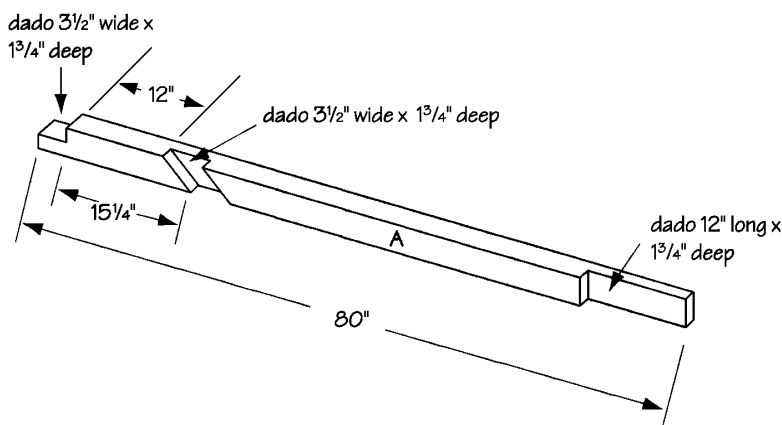
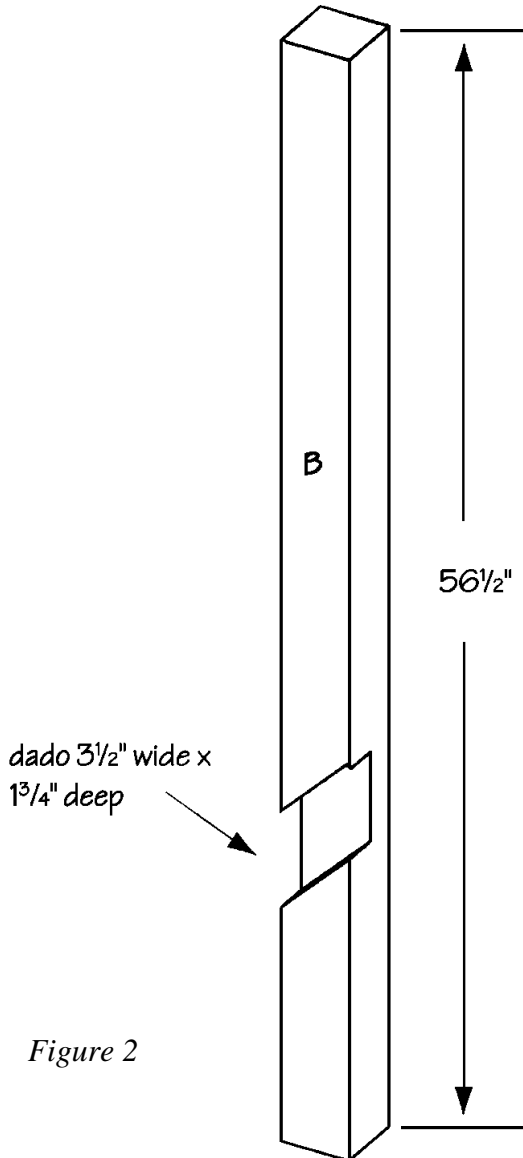
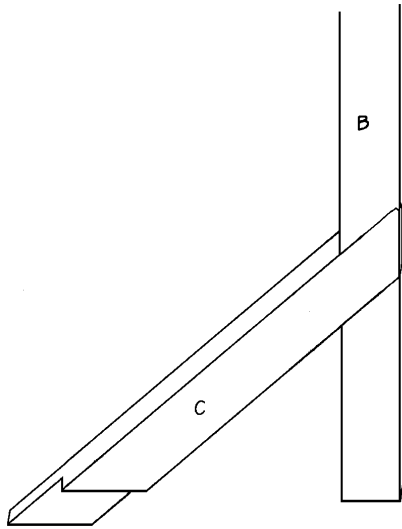

Figure 1
Figure 2
Figure 6
1. Cut one cross tie (A) from 4 x 4 pine, measuring 80: long.
2. Follow *Figure 1* to measure and then cut a lap dado across the width of one end of the crosstie (A), 3-1/2" across and 1-3/4" deep.
3. As shown in *Figure 1*, but a 45-degree diagonal dado in the cross tie (A), 12 inches from the lap dado, 3-1/2" wide and 1-3/4" deep. *Figure 1* shows an additional 12"-long dado cut on the remaining end. *This dado will be cut later.*
4. Cut one upright (B) from 4 x 4 pine, measuring 56-1/2" long.
5. Follow *Figure 2* to measure and then cut one 45-degree diagonal dado 3-1/2" wide and 1-3/4" deep, 12" from what will be the bottom of the upright support (B).
1. Place the cross tie (A) on a level surface, with the lap dado exposed on the top, as shown in *Figure 1*.
2. Place the footing (E) dado side down, over the lap dado in the cross tie (A). Screw them together by screwing through the footing dado into the crosstie dado. Use four 3"-long screws to secure the joint.
3. Fit the front brace (C) into the diagonal dado cut into the upright (B), as shown in *Figure 6*.
1. Screw a metal hanger into each of the uprights (A), about 5" from the top, on the same side as the front brace (C).
3. When you have decided what length the cross ties (A) should be, mark the length of the cross ties (A), and then mark a 12" length for overlap on each cross tie (A). Cut the cross ties (A) to length.
4. Remember the additional dado shown on the cross tie (A) shown in *Figure 1*? Well, now is the time to cut it. Cut a 12"-long dado 1-3/4" deep in both cross ties, making certain that they are mirror images of each other.